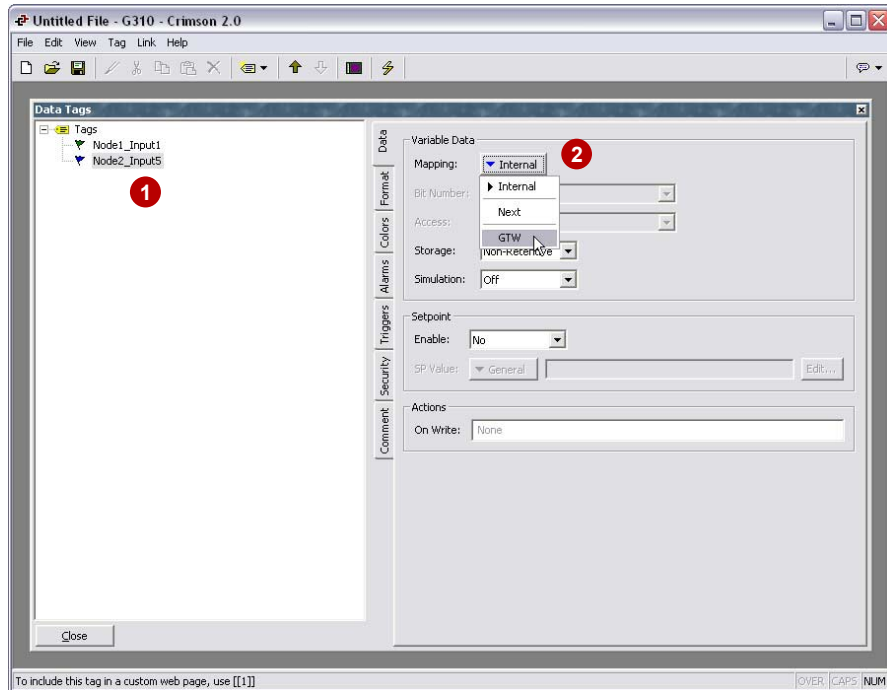

Figure 12
2. Click on the Internal button next to Mapping. The GTW device created in Communications is available as shown in Figure 12.
2. Click on the Internal button next to Mapping. The GTW device created in Communications is available (See Figure 12 and 14 for similar screen references).